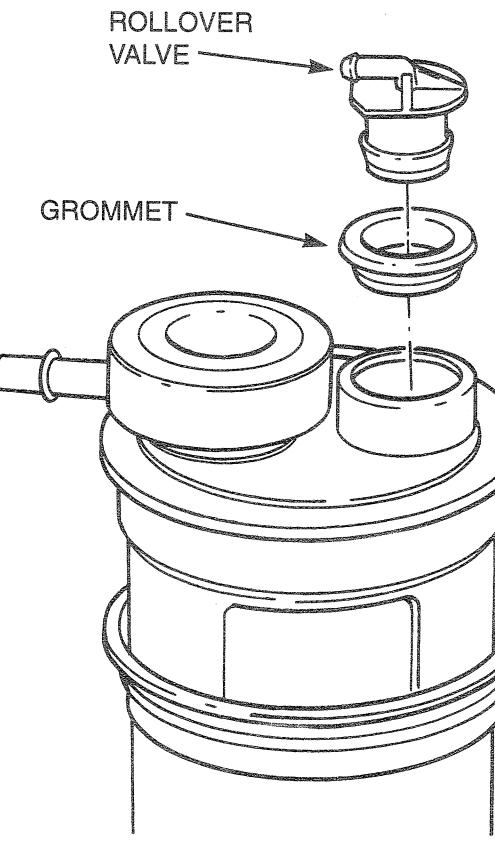

FIG. 2
E) Obtain the new tank unit. Install the rollover valve & grommet into the hole of the new tank unit. Noting the proper orientation, install the rollover valve into the grommet. Remember all hose fitting from the fuel filter/pressure regulator and rollover valve, along with the electrical connector will point toward the driver's side when installing properly. (See Fig. 2)